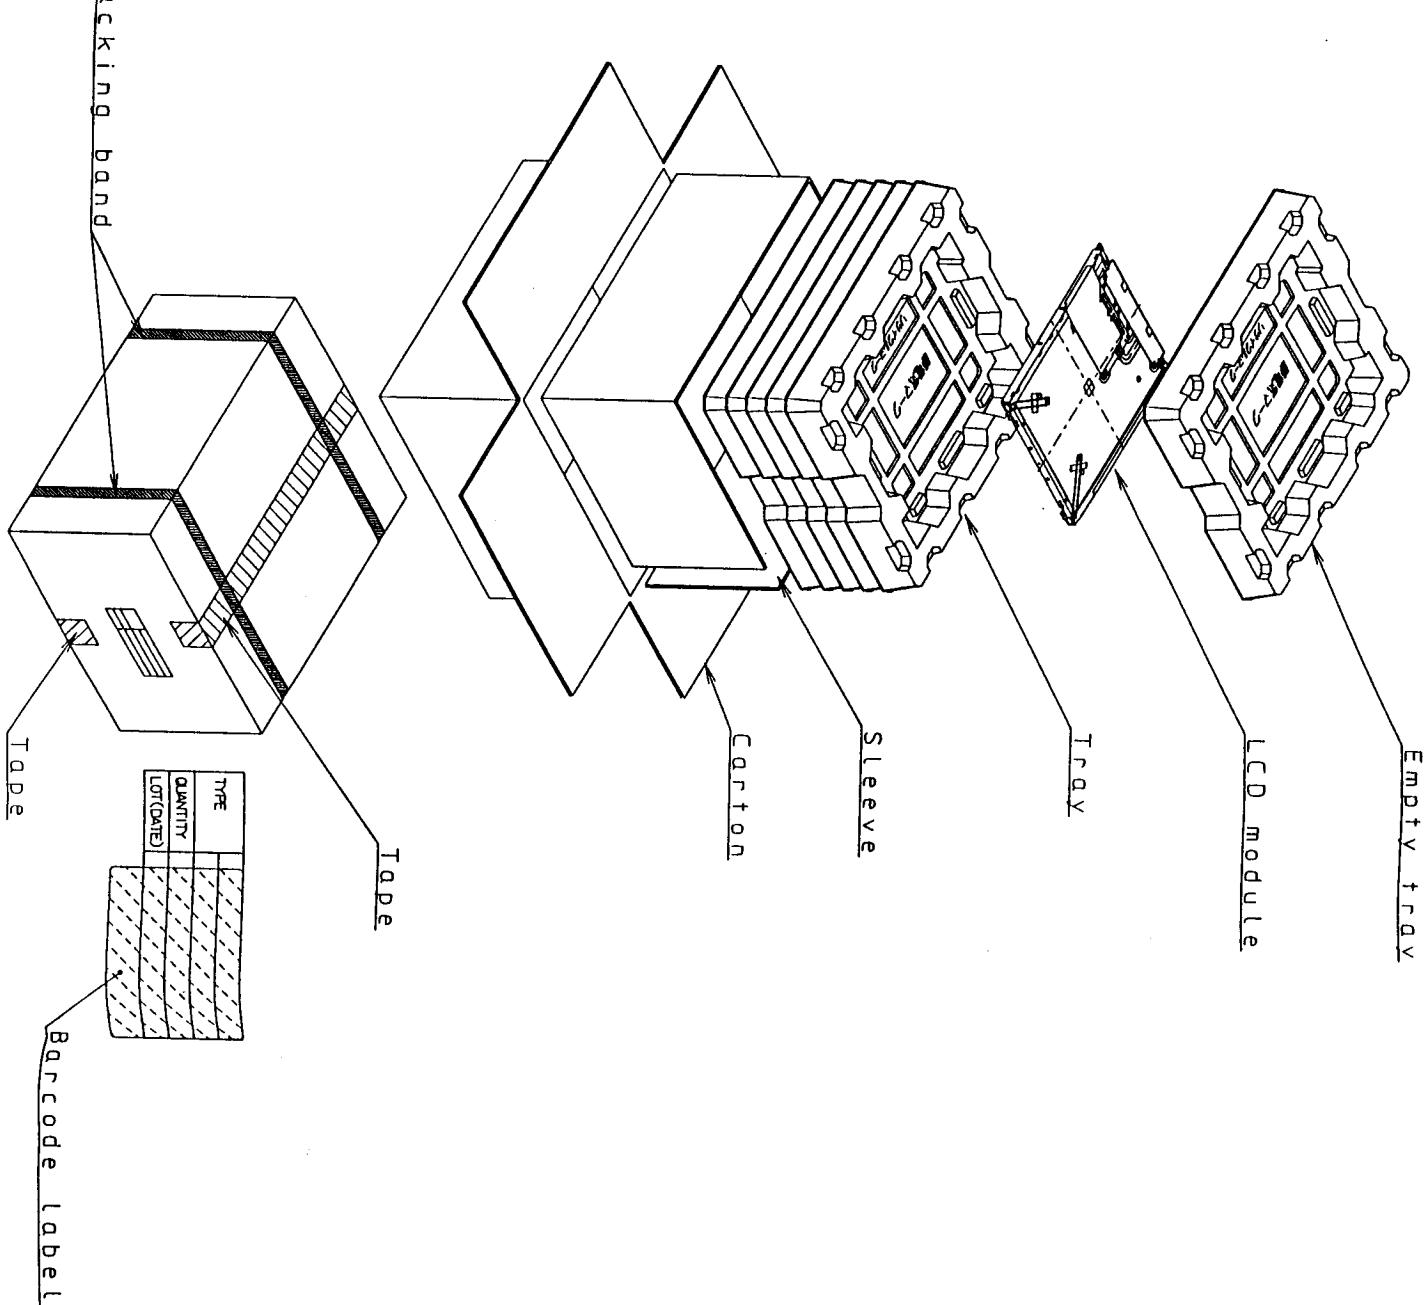

Fig. 5 PACKING FORM
- c) Carton size : 410mm (W) × 500mm (D) × 255mm (H)
- e) Packing form is shown in Fig .5